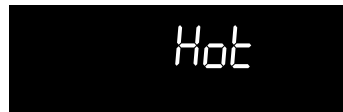

Fig. 3
1. The time of day and "Hot" will appear in the display window (See Fig.3).